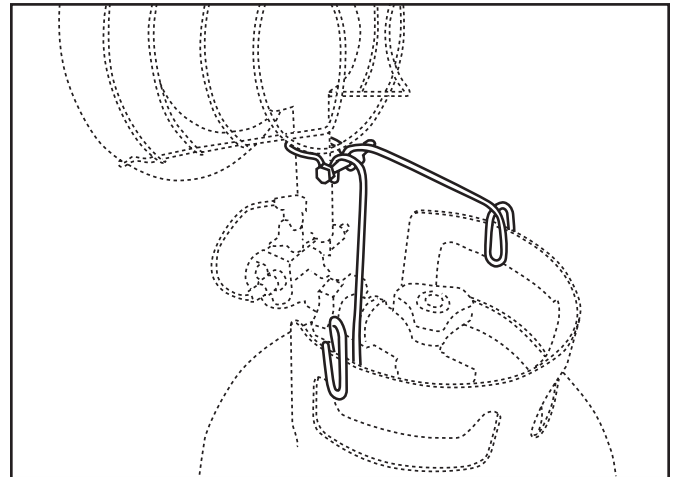

Figure 2b.
- Place heater support around venturi and slide clip ends onto propane cylinder collar. Use 1/4"-20 x 35mm screw and wing nut to secure heater support onto venturi tube. (See Figure 2b)